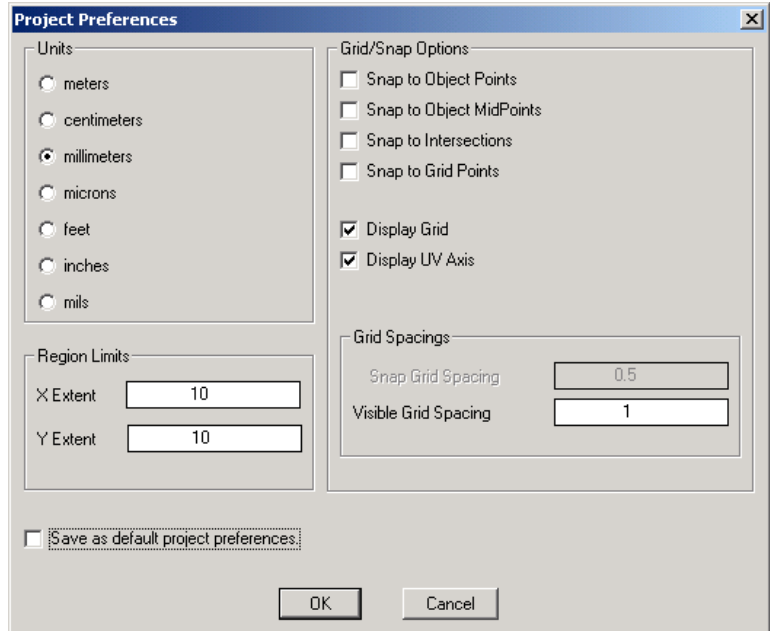

Figure 3 Coax Tee-Junction Project Preferences
- 1 For this example, use the settings that are shown in Figure 3.